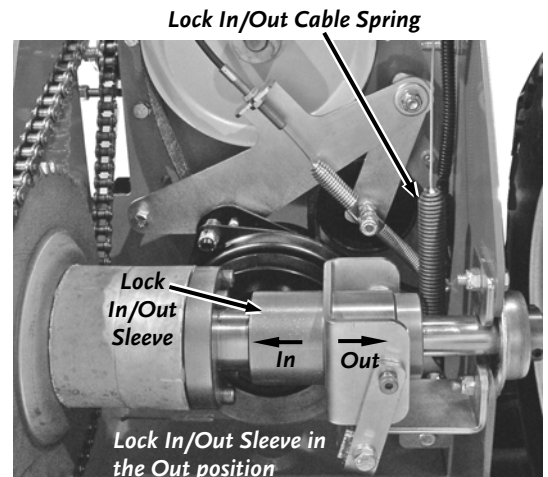

Figure 29
2. With the Lock In/Out Lever in the Out position (lever back), there should be a slight amount of slack in the Cable exposed at the spring end (**Figure 29**) and the Lock In/Out Sleeve should be all the way to the right (toward the outside).